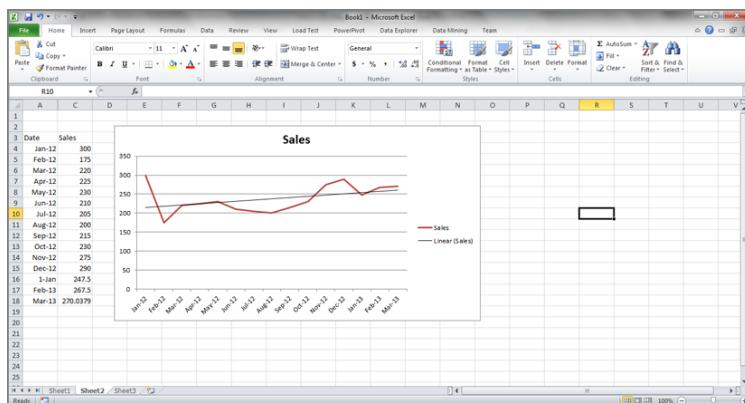

Figure 14-4
The results are forecasted points that are plotted along a trendline as shown in Figure 14-4.
**NOTE** Figure 14-4 can be created by first selecting the Month and Sales data range and then using Line Chart function on the Insert toolbar. A Linear Forecast trendline is also displayed and can be inserted by navigating to the Layout toolbar under Chart Tools.